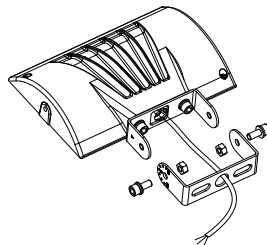

figure 2.2
Step 3: Fix the lamp and bracket together with screws; (Watch out not to scratch the wire) (figure 2.2)